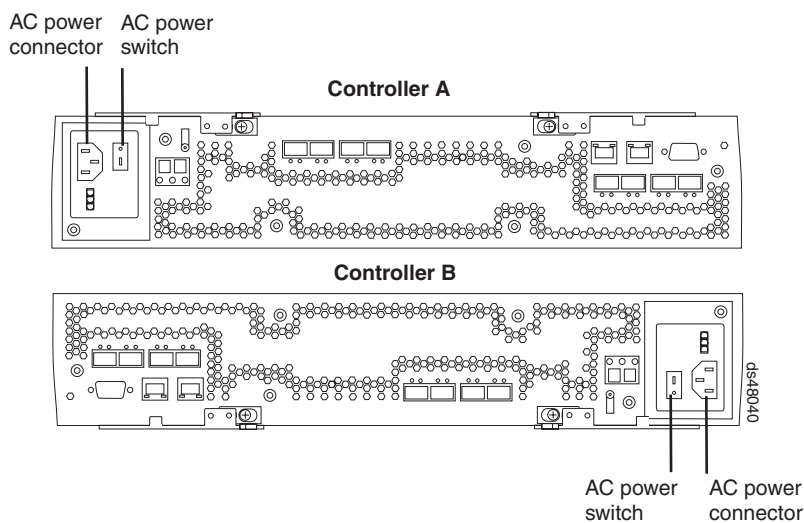

Figure 70. AC power switches on the controllers
5. Turn on the AC power switch on the back of each controller in the storage subsystem. Figure 70 shows the location of the AC power switches on the controllers.